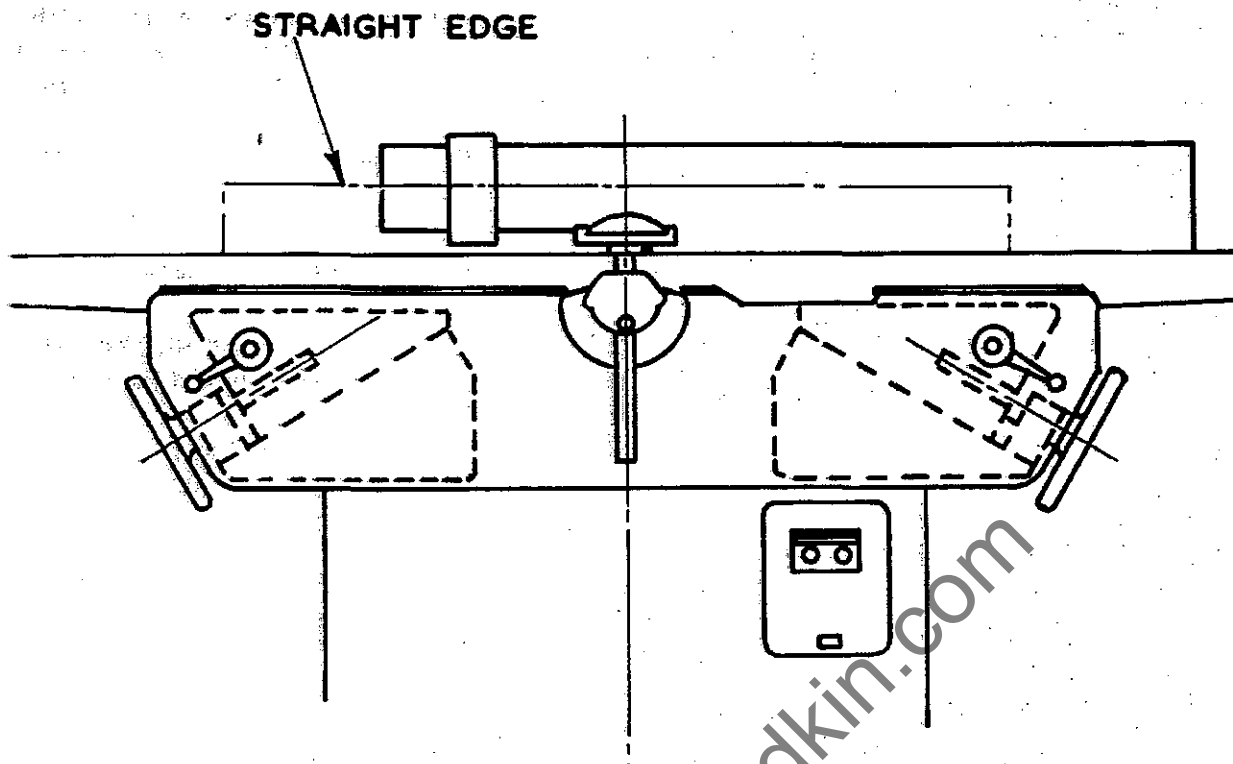

FIG 8.
6. To check the setting of the knives raise the back table to its top position i.e. the zero mark on the rule or  $1/16$ " above the outer surface of the cutterblock. Place a straight edge on the table as shown in Fig. 8 and rotate the cutterblock by hand until the knife just touches the straight edge. Repeat this check in various positions over the width of the table to ensure the knife is parallel. Repeat this procedure for all knives.